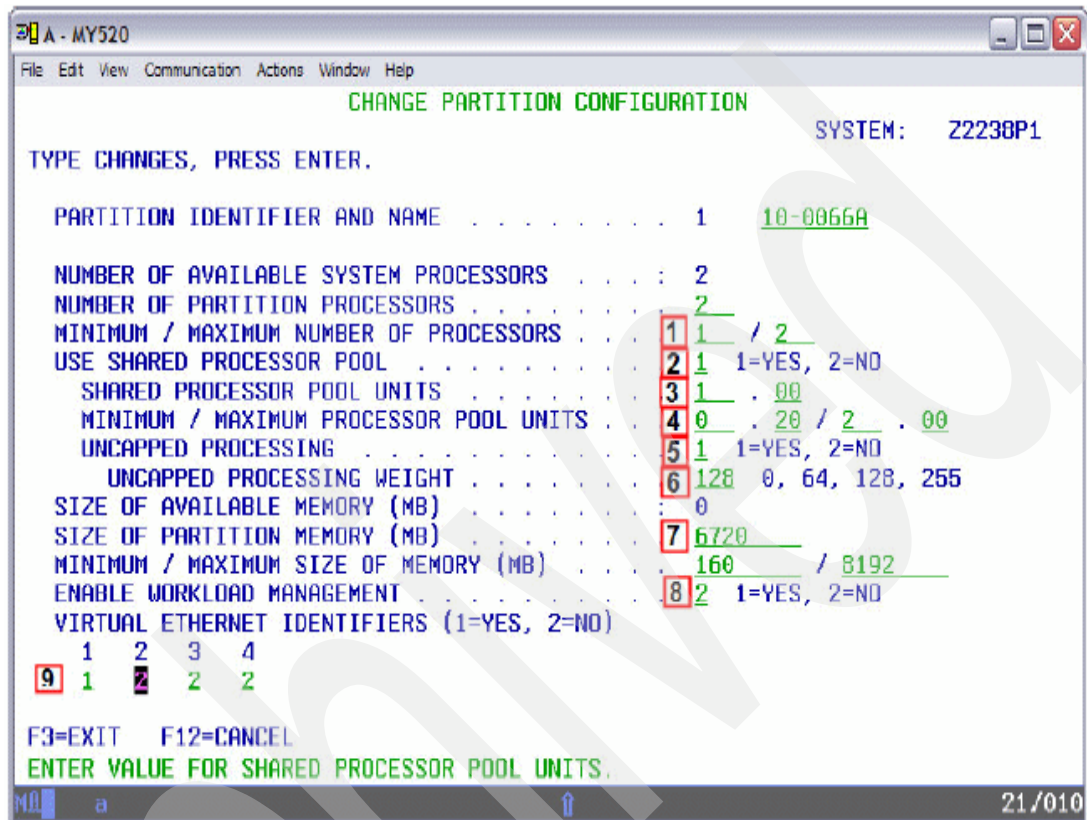

Figure 13-9 Change Partition Configuration Options
7. Make several changes here, based on the resources you want to set for the i5/OS partition. You need to assign the CPU and memory allocation according to the planning you completed with the Logical Partitioning Validation Tool (LVT). We examine all of the changes step-by-step as highlighted in Figure 13-9.